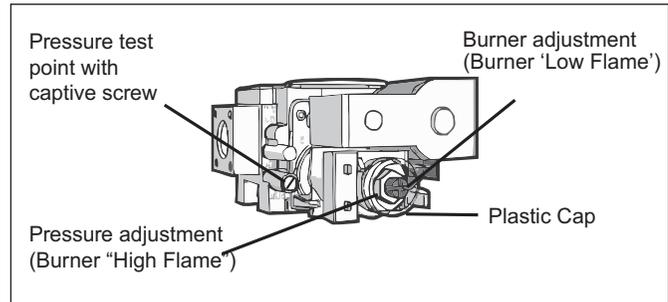
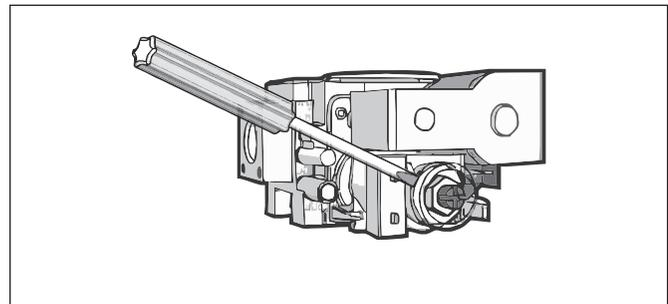

FIG 17
FIG 18
- Gas valve layout is indicated in **FIG 17**. Pressures for 'Burner High Flame' and 'Burner Low Flame' are factory set, however if pressures need to be checked or adjusted follow the procedures described below. To check outlet pressure at burner 'High Flame' and 'Low Flame' positions remove the plastic cap from the regulator adjustment location as indicated in **FIG 18**.